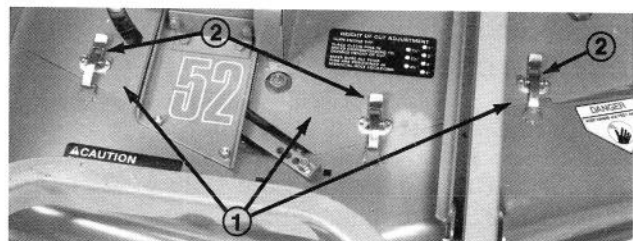

Figure 3
1. Unhook latch to release center deck cover from housing, and remove cover to expose gear box pulley (Fig. 3).